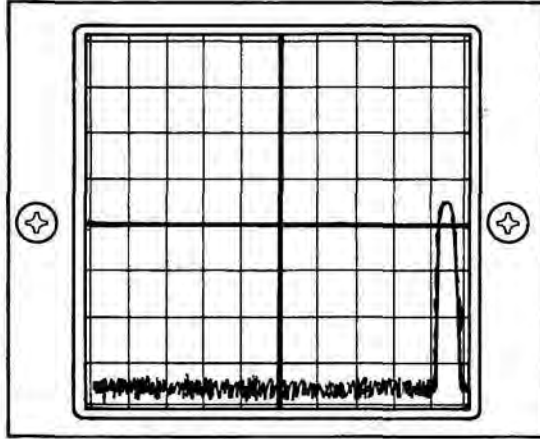

Figure 3-39 Narrow Dispersion Spectrum Display 5 Graticule Divisions Right Of Major Vertical Axis
19. Set RF FREQUENCY MHz Thumbwheels (34) to "1245000" and verify Signal Generator spectrum displayed on CRT Display (36) is 5 graticule divisions right of the major vertical axis (± 4 minor graticule divisions). (See Figure 3-39.)